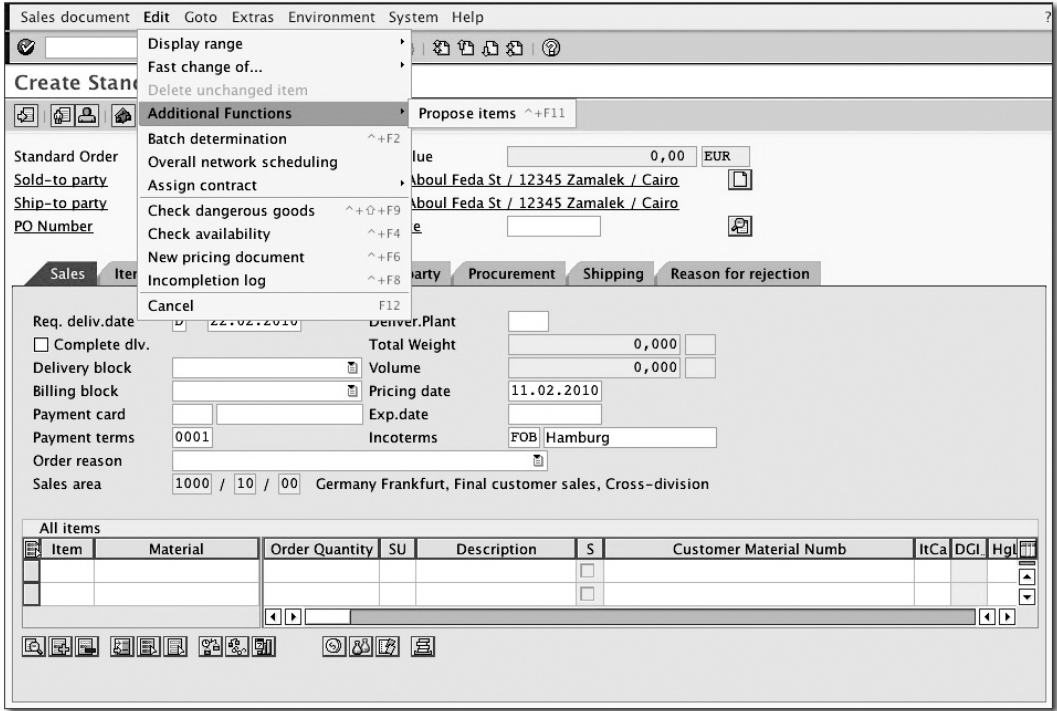

Figure 3.14 Create Standard Order: Overview Screen – Item Proposal Menu
3. To initiate the item proposal function, go to **EDIT • ADDITIONAL FUNCTIONS • PROPOSE ITEMS**, as shown in Figure 3.14.